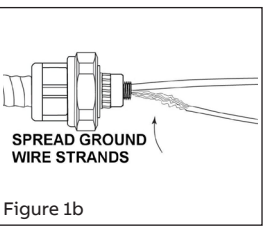

Figure 1b
- 1b Spread insulated conductors slightly. Spread strands of uninsulated grounding conductor where applicable (Figure 1b).